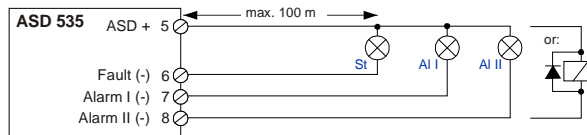

Fig. 27 Wiring the OC outputs
- When connecting inductive consumers (e.g. relays), a freewheel diode is to be installed directly at the consumer, **Fig. 27**.